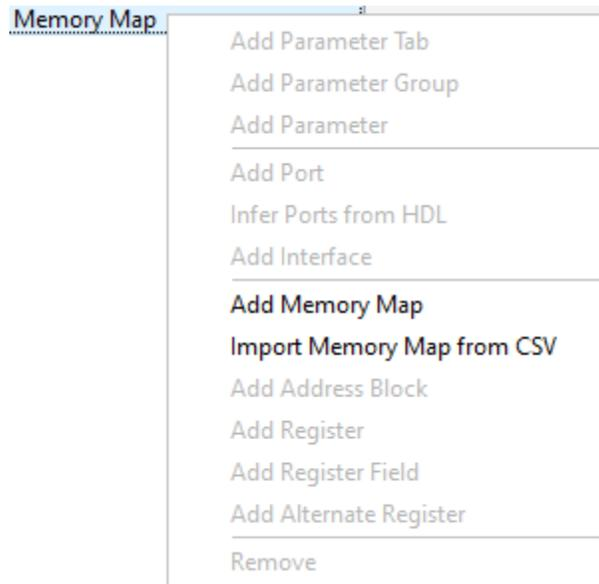
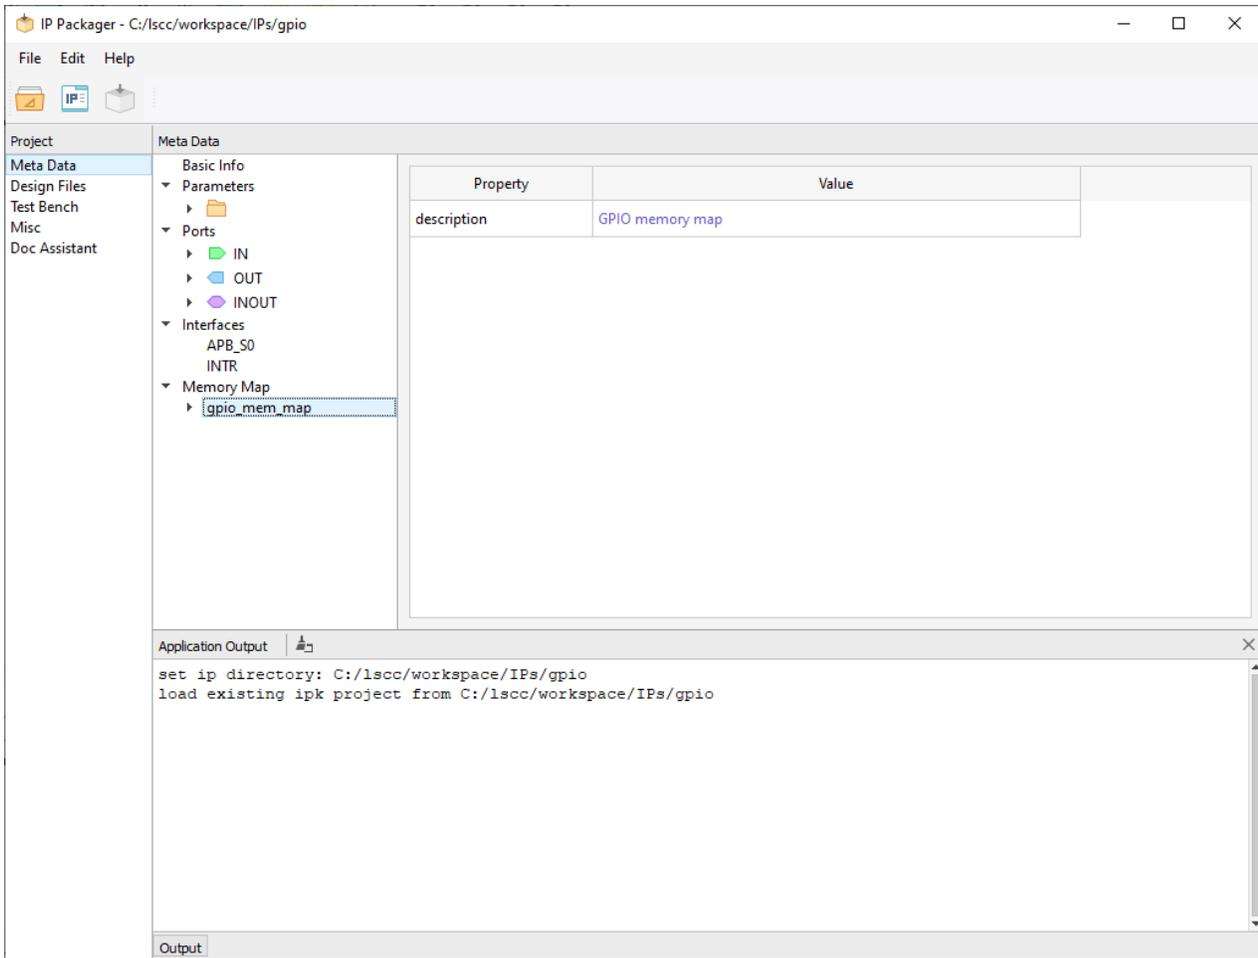

Figure 3.23. Right-click Menu of a Memory Map
Figure 3.24. Generate New Memory Map
- Right-click **Memory Map** from the Meta Data Tree, and choose **Import Memory Map from CSV** (Figure 3.23). New memory map is created (Figure 3.24).